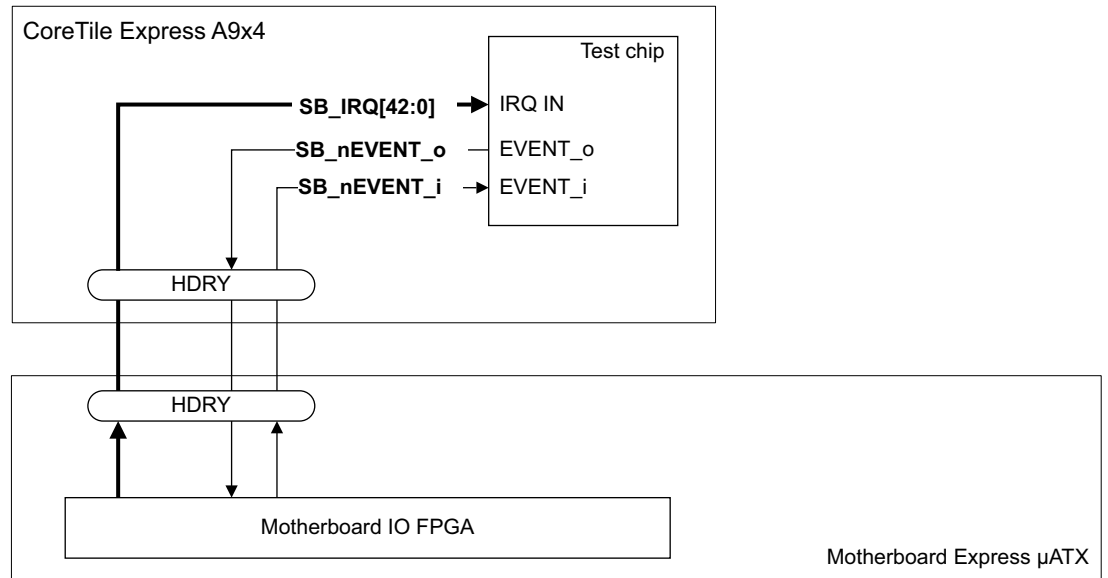

Figure 2-7 Interrupt overview
The *System Bus* (SB) carries the interrupt and control signals between the motherboard and the daughterboard. Figure 2-7 shows an overview of the interrupt signals between the daughterboard and the motherboard.